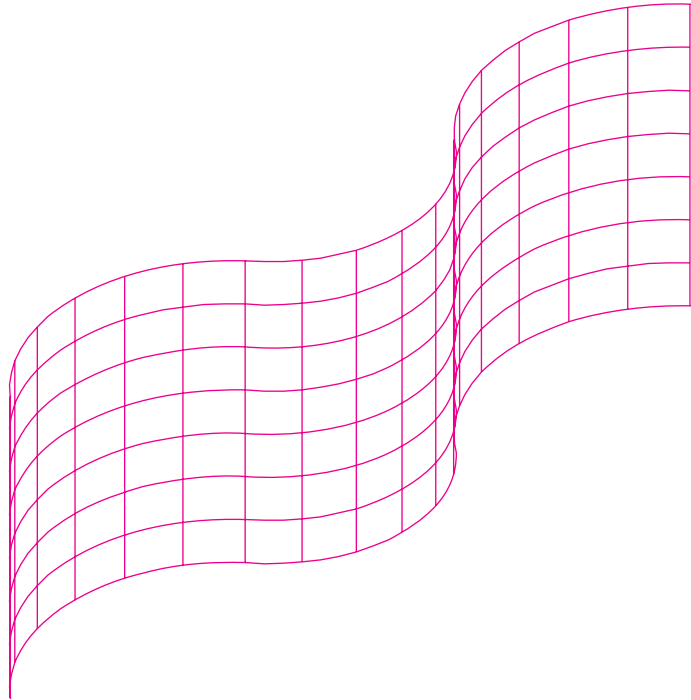

Fig. 14.39 First example – 3D Surface
As mentioned on page 243 surfaces can be formed using the **Extrude** tool on lines and polylines. Two examples are given below in Figures 14.39 and 14.41.
First example – 3D Surface (Fig. 14.39)
2. In the **ViewCube/Isometric** view, call the **Extrude** tool from the **Home/Modeling** control and extrude the polyline to a height of **80**. The result is shown in Fig. 14.39.